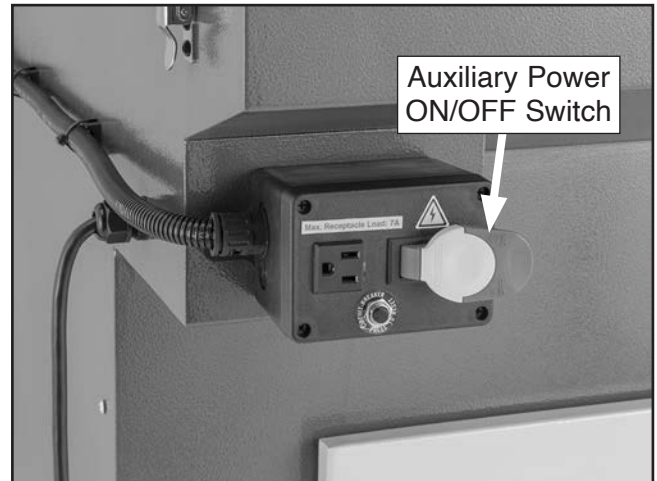

Figure 29. Location of auxiliary power ON/OFF switch.
17. Move auxiliary power ON/OFF switch left to turn auxiliary power **ON** (see **Figure 29**). Work light will illuminate.